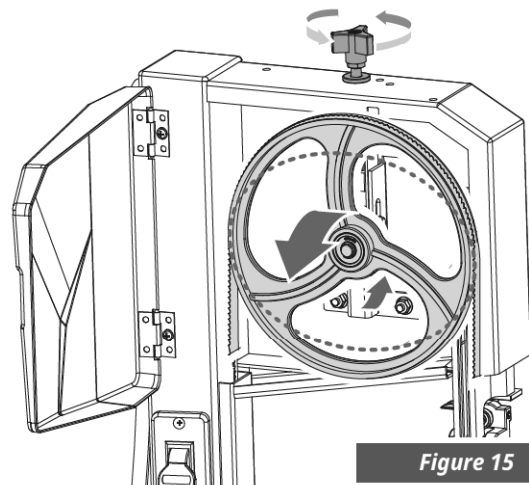

Figure 15
3. Loosen setting knob until the band saw blade has slackened. (See Figure 15)